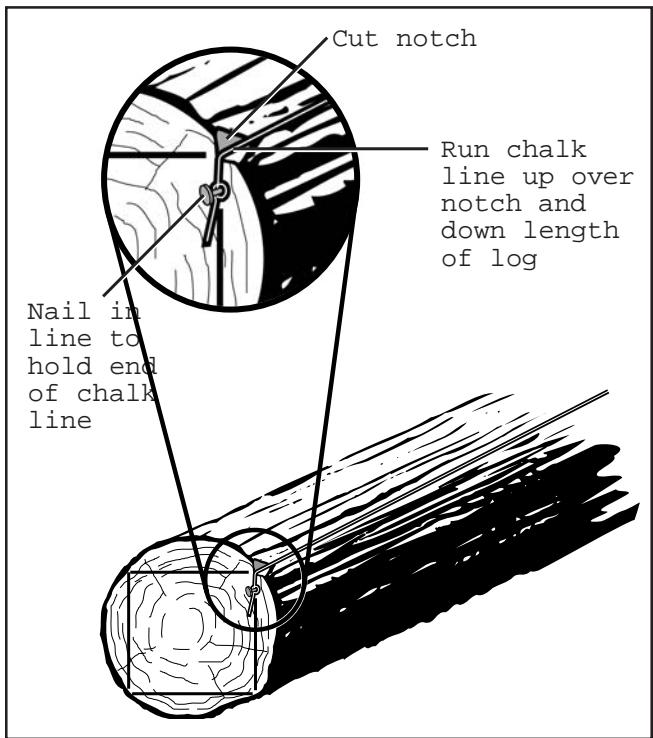

Figure 100—Here's a way to secure one end of the chalk line while you move to the other end.
4. Snap a chalk line from the upper corner of the layout on one end to the corresponding corner on the other end (Figure 99). It is easier to do if you first cut a notch in the log with your pocket knife immediately above the scribed vertical line. Drive a nail into the vertical line just deep enough to hold one end of the chalk line. Run the chalk line up through the notch and along the length of the log (Figure 100). Then, holding the line tightly at the other end, snap the line by raising it straight up and letting it go.